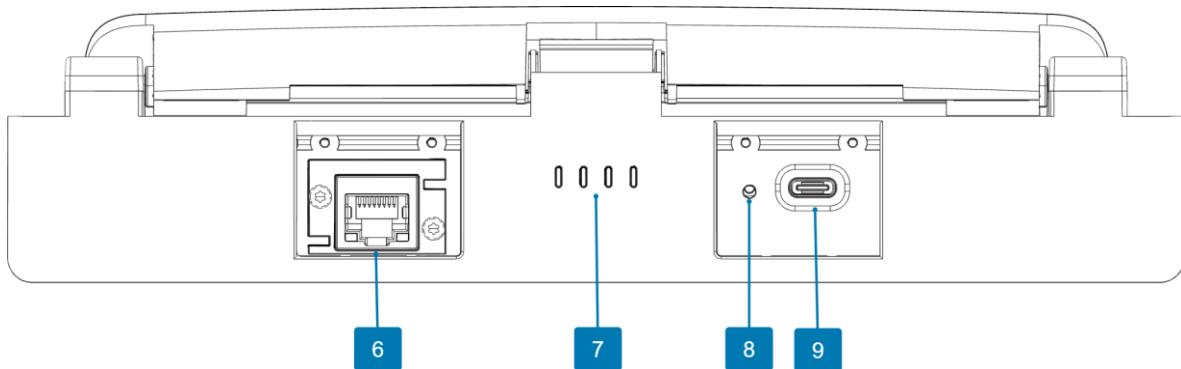

Figure 16: MARS Ranger rear view, plastic covers removed
- Ethernet port (*No. 5 in Figure 16*) – used for remote antenna connection, webserver access.
- USB-C charging port (*No. 8 in Figure 16*) – used for charging.
NOTE: Numbers 5, 7, and 8 (Figure 16) are underneath the 2 plastic covers on MARS Ranger. The plastic covers are not shown in the image above for clarity.